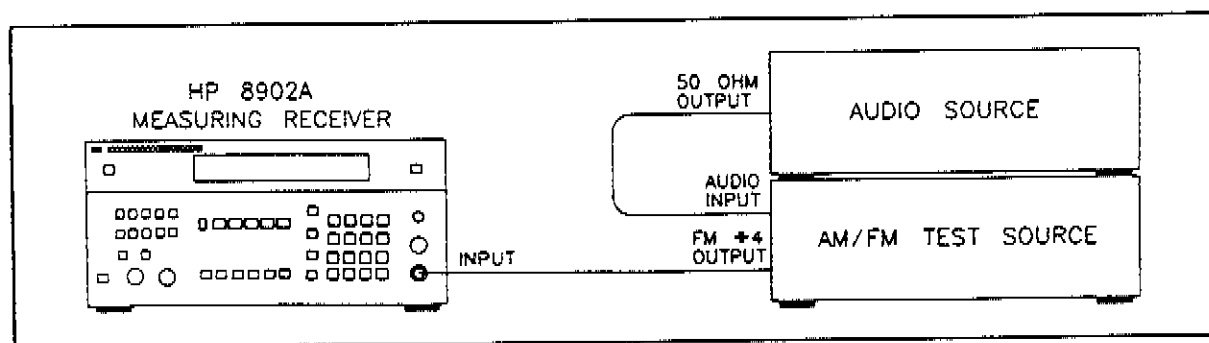

Figure 4-10. Measuring Receiver Incident AM Verification Test Setup
- Connect the FM divide-by-4 output of the AM/FM test source to the input of the measuring receiver and the 50 ohm output of the test oscillator to the audio input of the AM/FM test source, as shown in Figure 4-10.